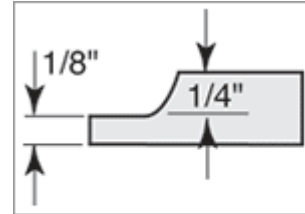

Figure 5
2. Cut the top panel to size, then use a 1/4" cove bit to shape its top edges (see *Figure 5*), leaving a 1/8" lip to be inserted into the top molding. Sand the top face of the panel.